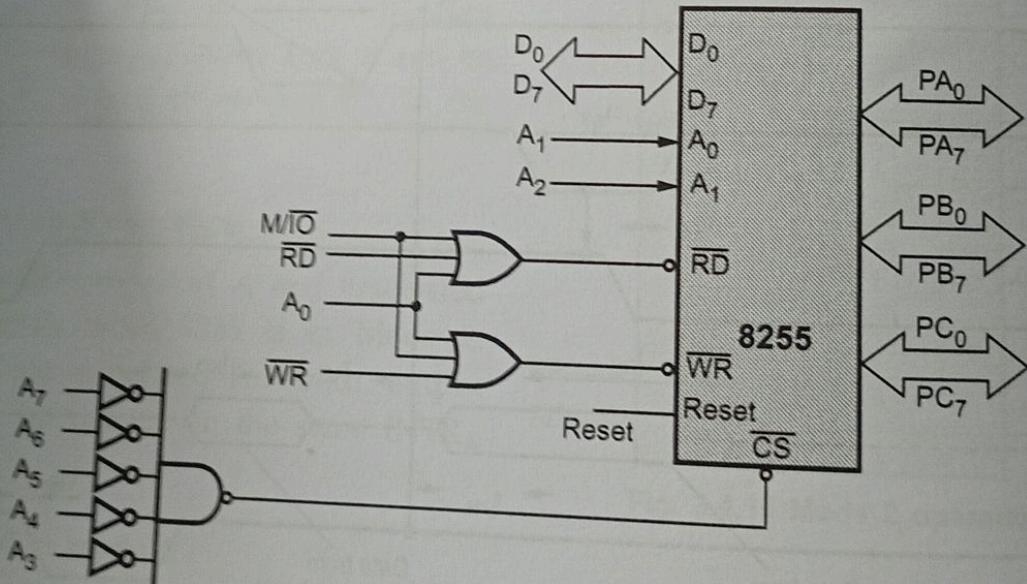

Fig. 3.4.18 I/O mapped I/O (Direct address method)
- Fig. 3.4.18 shows the interfacing of 8255 with 8086 in I/O mapped I/O technique. Here, \overline{RD} and \overline{WR} signals are activated when M/ \overline{IO} signal is low, indicating I/O bus cycle.